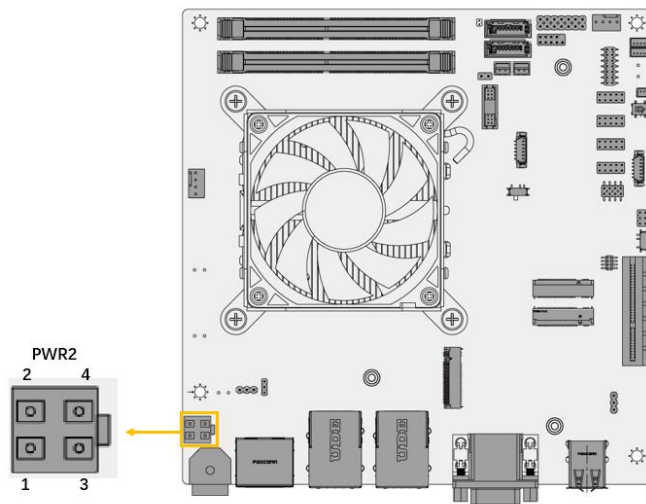

Figure 3-5: 12V Power Input Connector Location
- CN Location:** See **Figure 3-5**